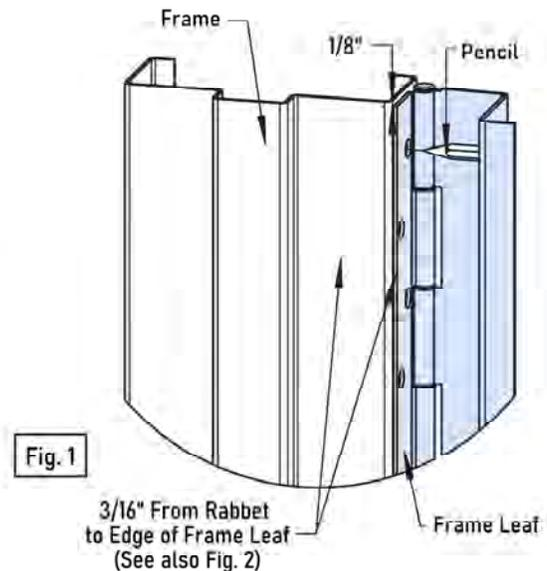

Fig. 1
A. Place hinge frame leaf on frame face. Position top of hinge  $1/8"$  maximum below header. Place hinge firmly against face of frame. Position frame leaf edge  $3/16"$  from rabbet as shown (Fig. 1 & 2).